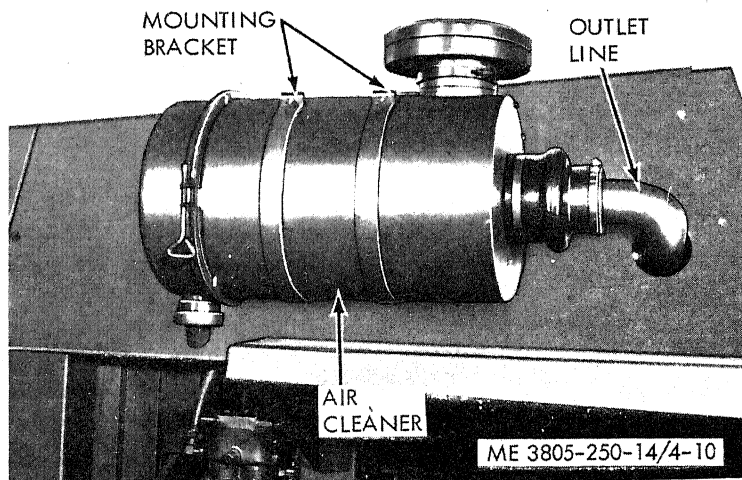

Figure 4-10. Air cleaner, removal and installation.
b. *Removal* (fig. 4-10).
- (1) Loosen the clamp securing the outlet line to